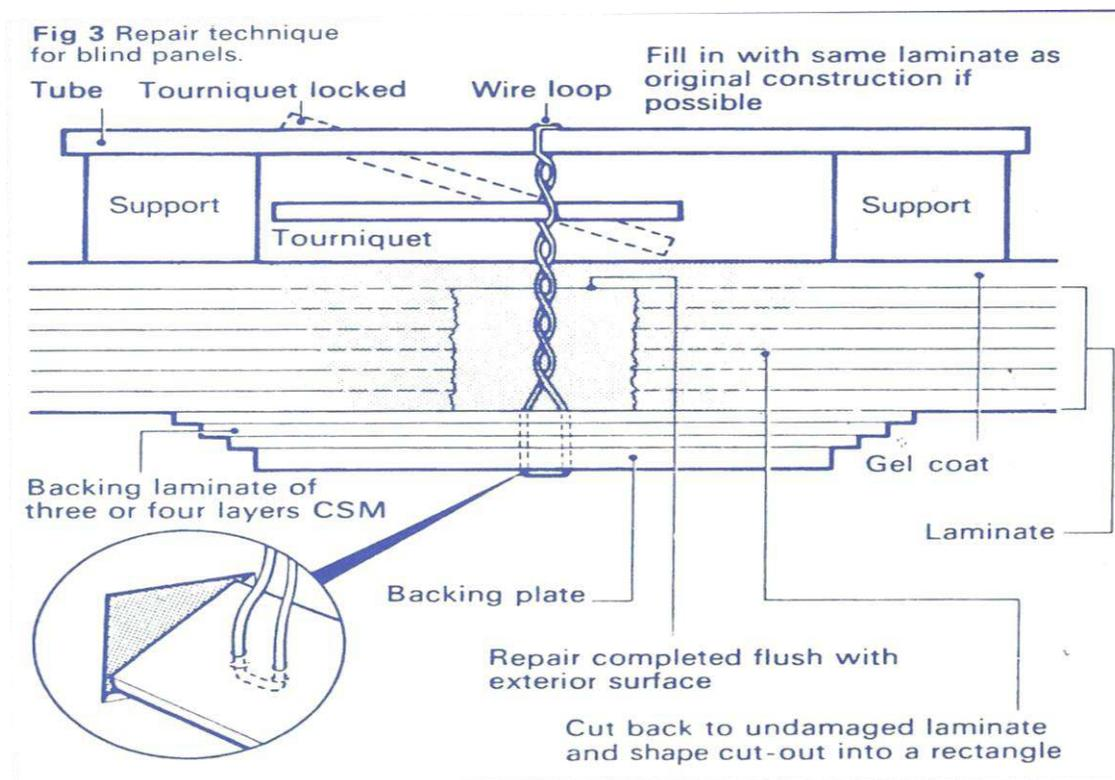

Figure 3
In some cases, it is impossible to reach the reverse face of a damaged laminate, in articles of double skinned construction, for example, and in such cases, 8 special repair techniques have to be used. The procedure is illustrated in Fig 3 and involves the stages indicated below;
2. The edges of the hole are filed down at an angle as indicated in Fig 3, and the area is finally brushed to remove any loose powder.
3. A rectangular facia board larger than both dimensions that the cut-out hole is prepared from hardboard or plywood depending on the size of the hole. This facia board has to be passed through the cut out of the hole to the reverse side of the moulding and its smaller dimension of the hole. Two small holes are drilled in the facia plate near the centre (see insert in Fig 3).
5. While the new laminate is still wet, the facia plate is passed through the hole and pulled tight by means of the wire so that the wet laminate is pressed against the reverse side of the old laminate all-round the hole. Tension is applied to the wire in order to do this, an easy way being to bridge the repair with a bar placed on the stand-off blocks at each end. The wire is placed in a loop over the bar as shown in Fig 3 and twisted, tourniquet fashion, to tighten it.